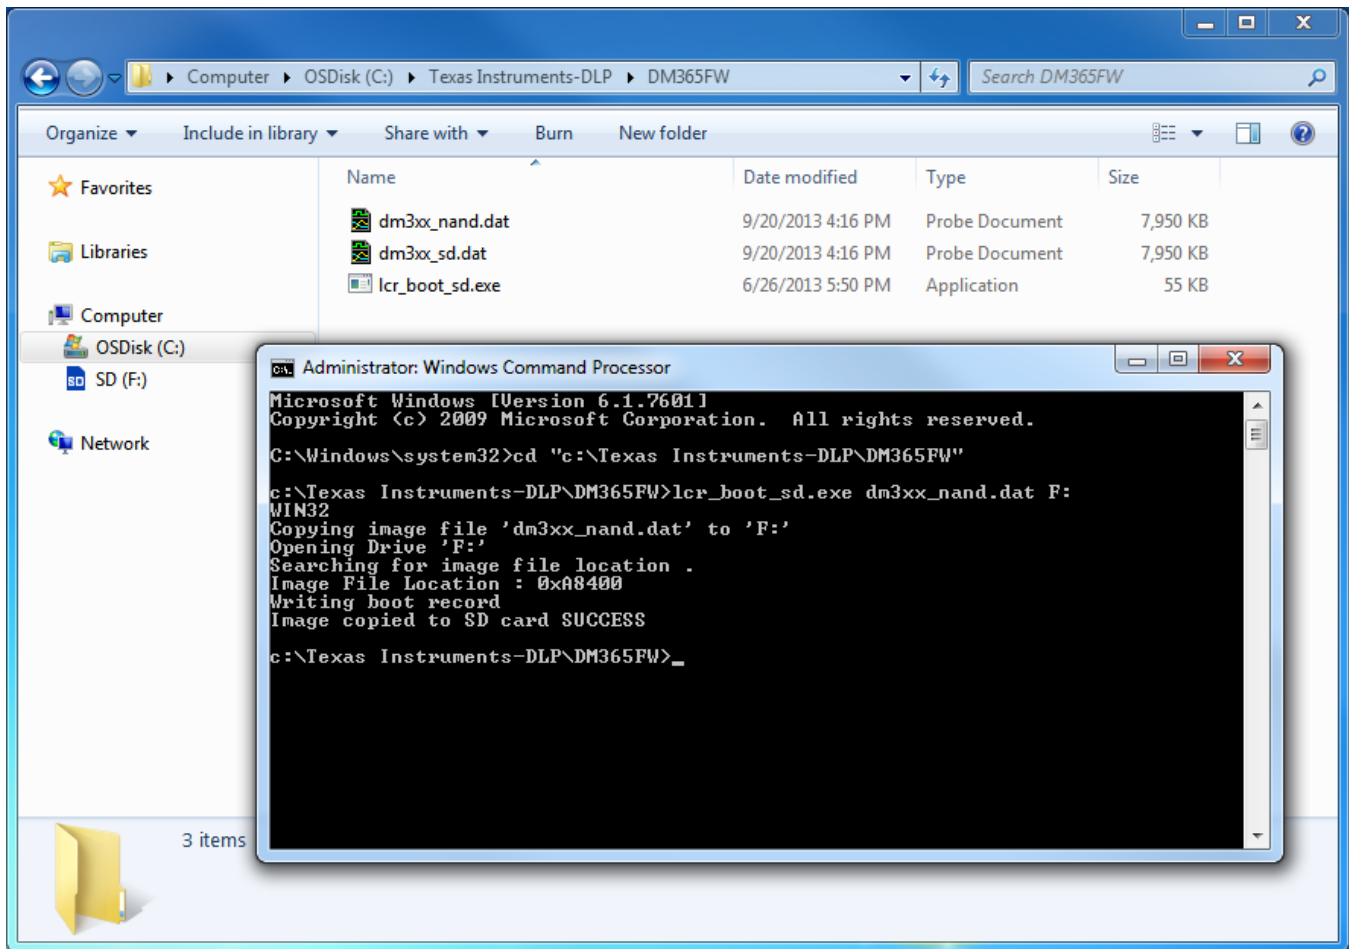

Figure 2-61. Windows 7 Create Bootable SD Card Program
6. Change to the directory with the DM365 firmware (*.dat) and lcr_boot_sd.exe using the "cd" command. See Figure 2-61.